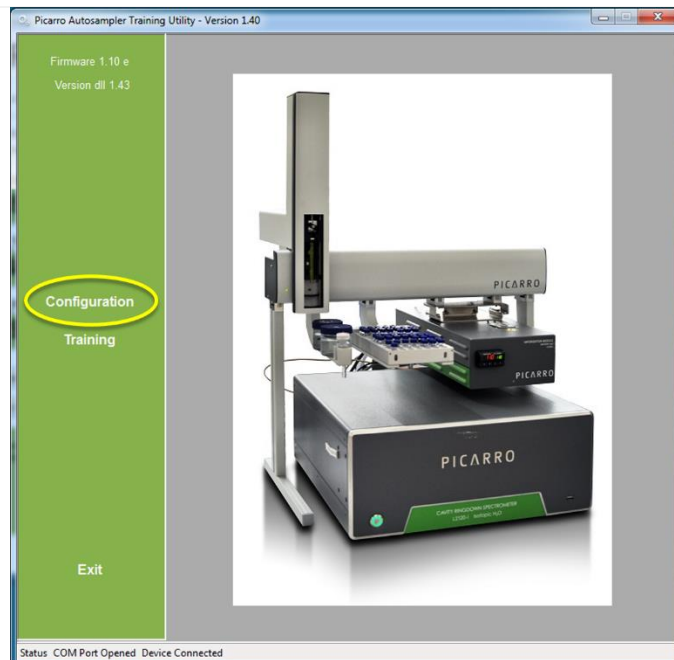

Figure 121. Open the Autosampler Training Program Window.
STEP 3 | Open the PICARRO Autosampler Training icon via Desktop and select “Configuration” (Figure 121).